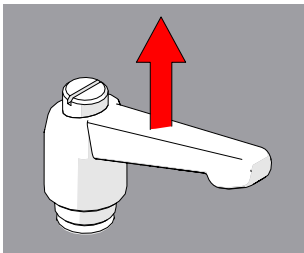

Fig. 32 - Pull ratchet handle
1. Pull the ratchet lever away from the base to which it is connected (*Fig. 32*).